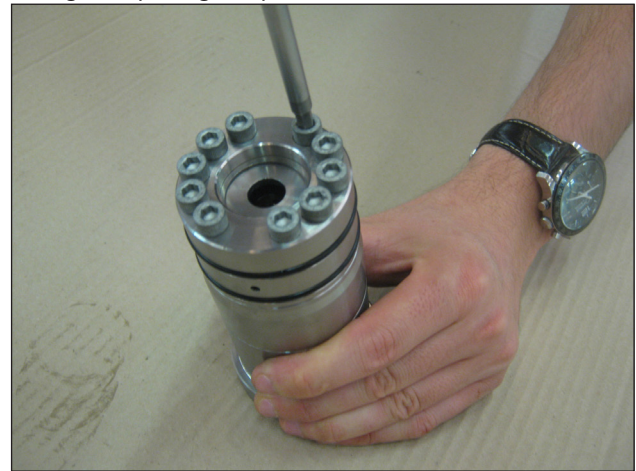

Fig. 49
- Assemble the L.P. and H.P. seals support units. – liner manually screwing the screws M6x80 as indicated in Fig. 49. Then proceed with calibration using a torque wrench as indicated in chapter 3.